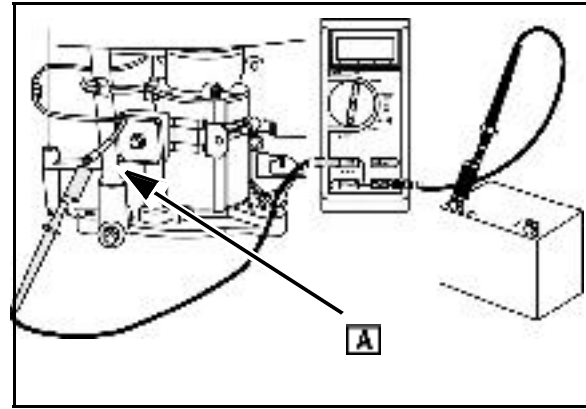

Fig. 21
2. Attach RED test lead clip to DC output terminal ([A] Fig. 21) on regulator–rectifier.